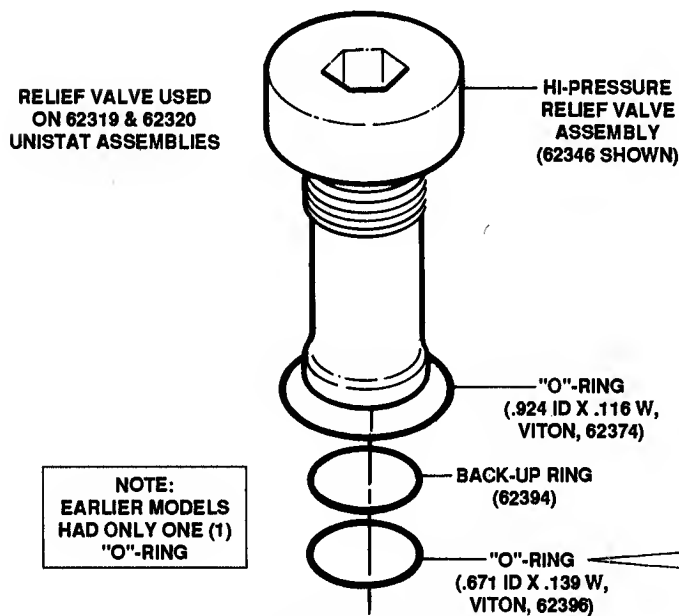

FIGURE 9.16
3. The pressure relief valves are serviceable to the point that the o-rings can be replaced should they become damaged; otherwise, the valve must be replaced if it fails. See Figure 9.16.